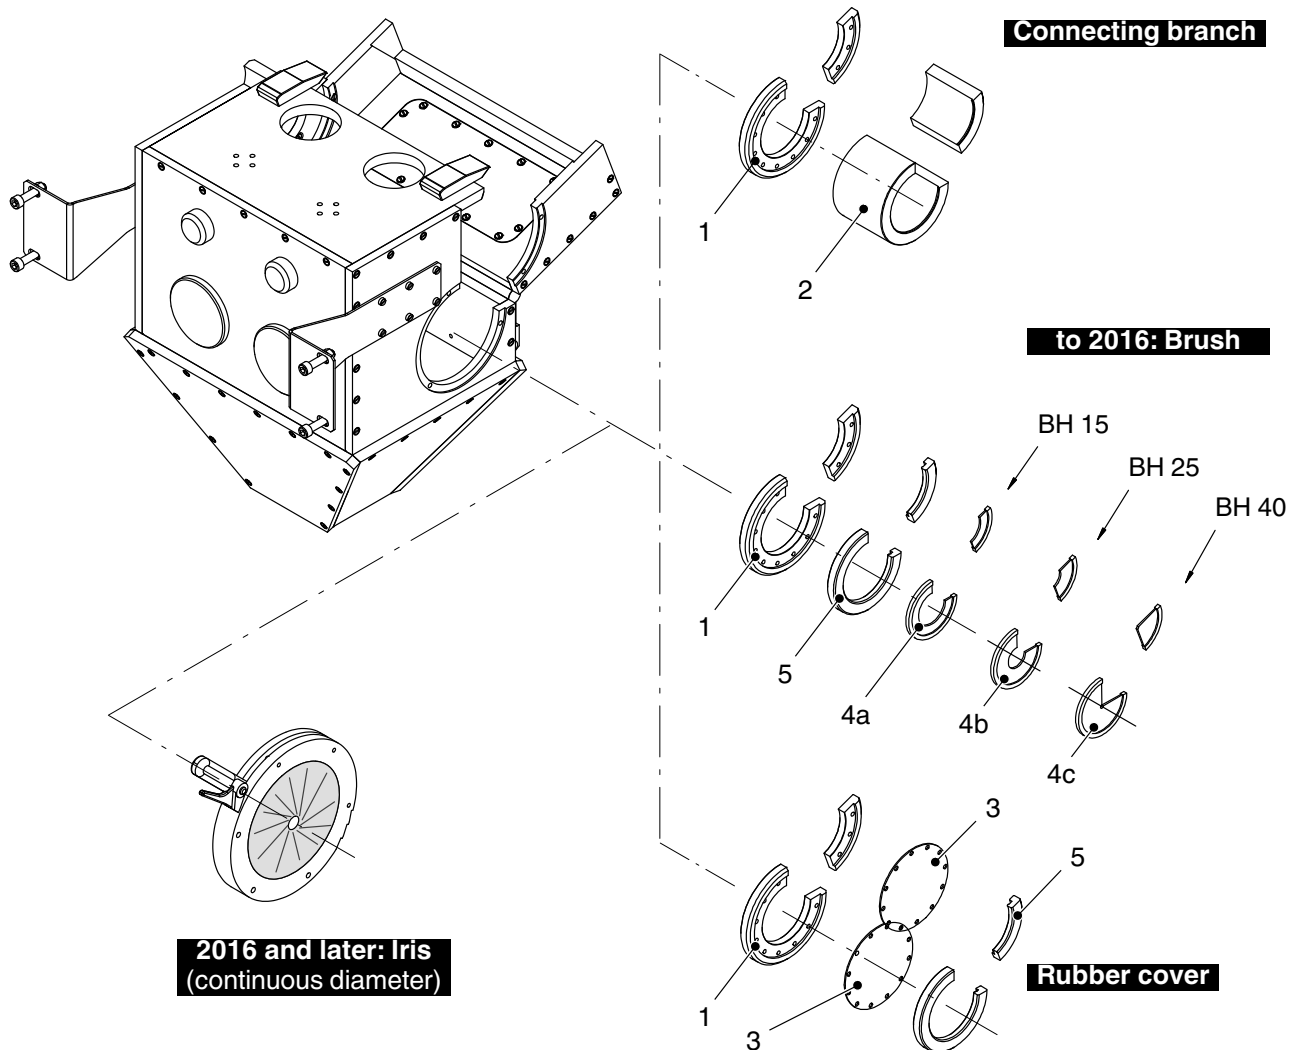

Fig. 4-1
- A. Size D80 and D100: Screw the connecting branch (2, Fig. 4-1) onto the adapter (1). Screw the assembly onto the spray chamber.
- B. Size D125: Screw the connecting branch (2, Fig. 4-1) directly onto the spray chamber.
Punch or cut hole in both rubber lids (3, Fig. 4-1). Cut one to 3/4 circumference and the other to 1/4 circumference.
**NOTE:** The brushes are available with different bristle lengths (BH 40: 40 mm, BH 25: 25 mm, BH 15: 15 mm, Fig. 4-1).